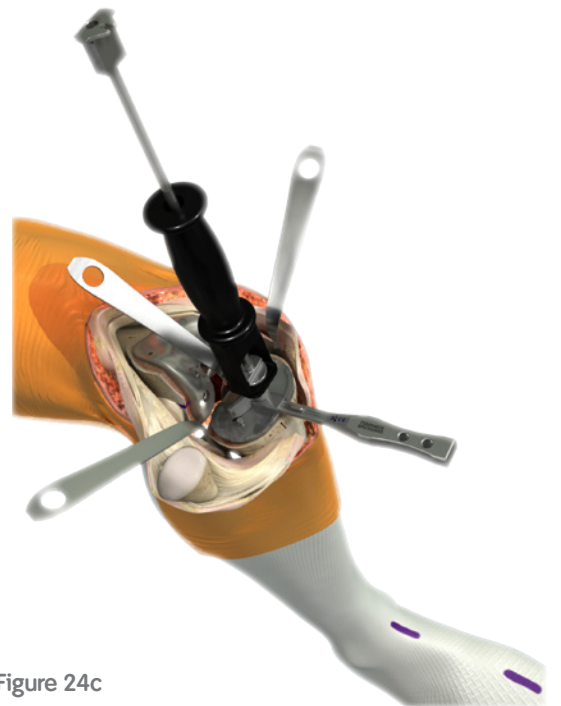

Figure 24c
**Note:** An alternative method to setting tibial rotation is to use the tibia trial bullet. This can be used once the central canal has been prepared but before the keel preparation. With the tibial trial not pinned to the tibial surface, insert the bullet into the prepared canal, insert a 9mm trial articular surface and the appropriate femoral trial. Assess baseplate rotation and use a cautery to mark correct position. Then pin and prepare keel as described above (Figure 24c).